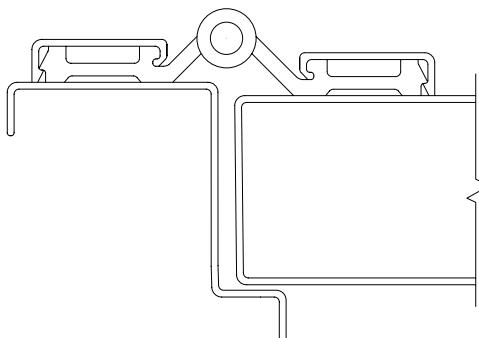

FIGURE 2e
4. The Full Surface Continuous Hinge, Figure 2e, has one leaf mounted to the frame face and the other leaf mounted to the door face.